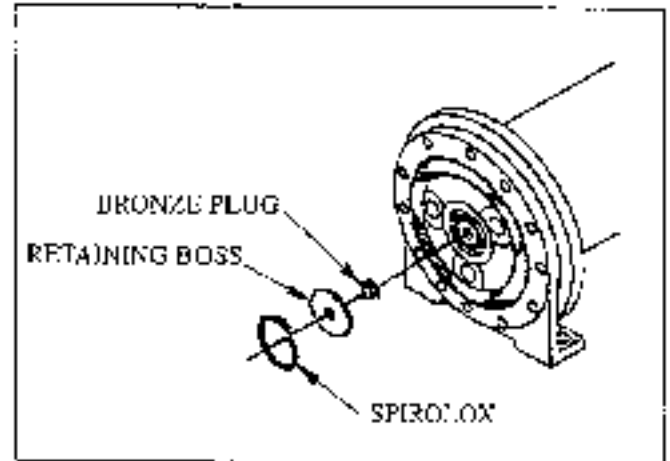

Figure 28
6. Install retaining boss, bronze plug, and the sprolox retaining ring. See Figure 28.